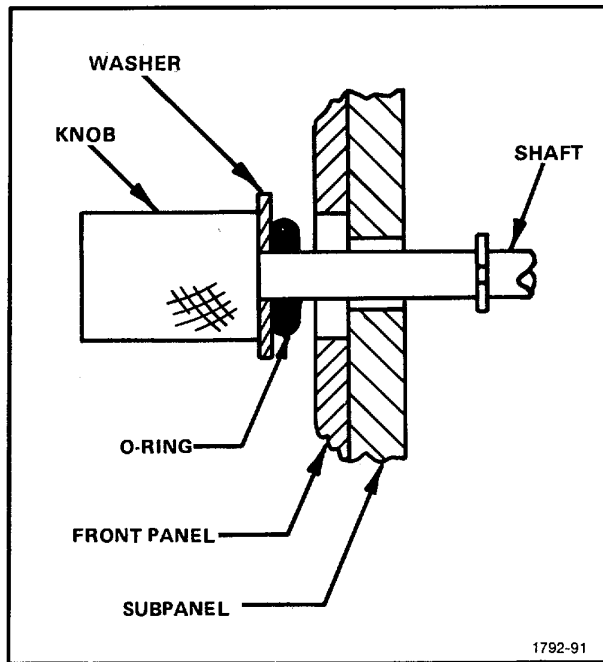

Figure 5-38. Detail of X-Y Module thumbscrews
32. Preparation of the Thumbscrews that are used for securing the X-Y Output Module (see Fig. 5-38)
3. Position the O-ring on the shaft as shown in Fig. 5-38.